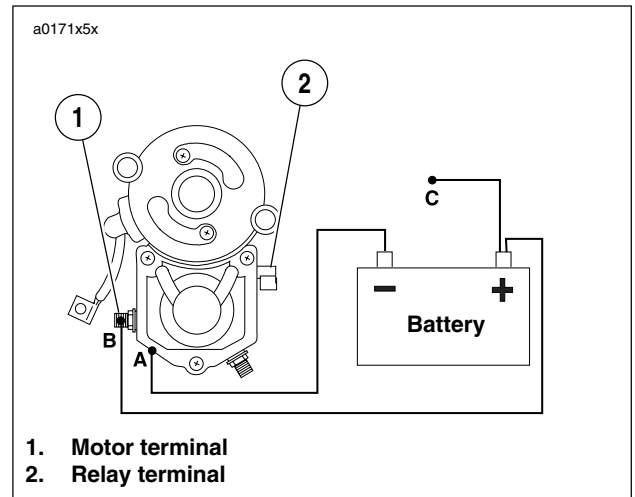

Figure 5-15. Return Test
1. See Figure 5-15. With test leads still connected in the manner specified at the end of the previous SOLENOID HOLD-IN TEST, **disconnect solenoid relay terminal/positive battery post test lead (C) at either end.**